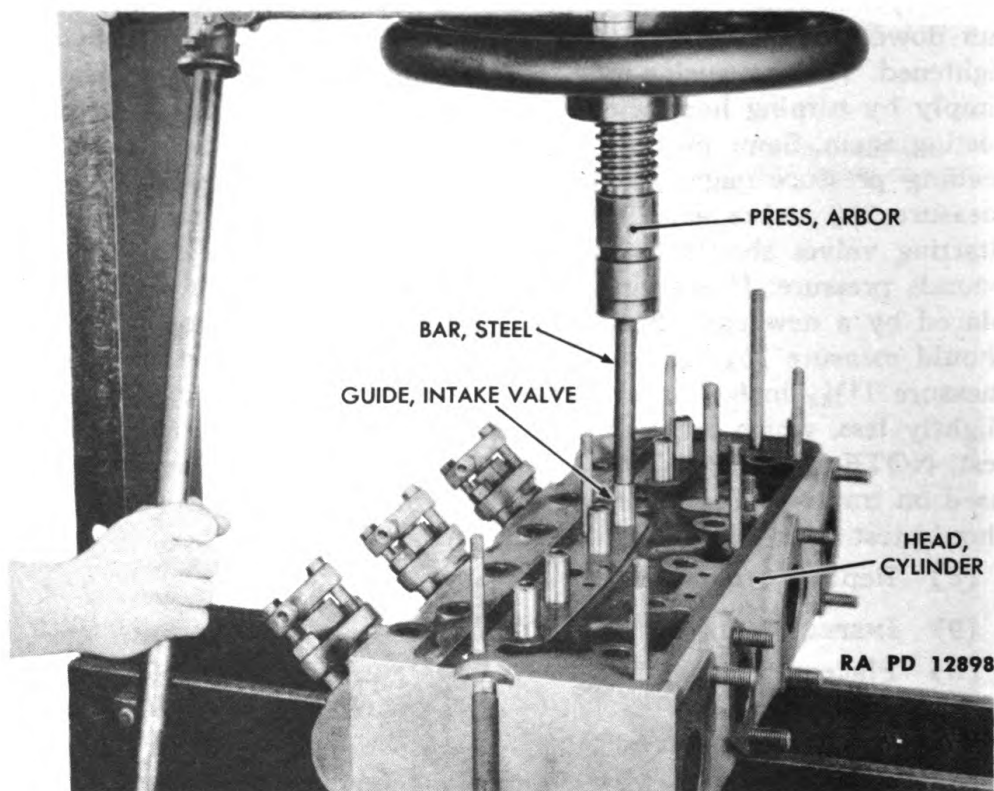

Figure 79—Pressing Intake Valve Guide into Cylinder Head
- (4) **INSTALLING NEW VALVE GUIDES** (figs. 79 and 80).